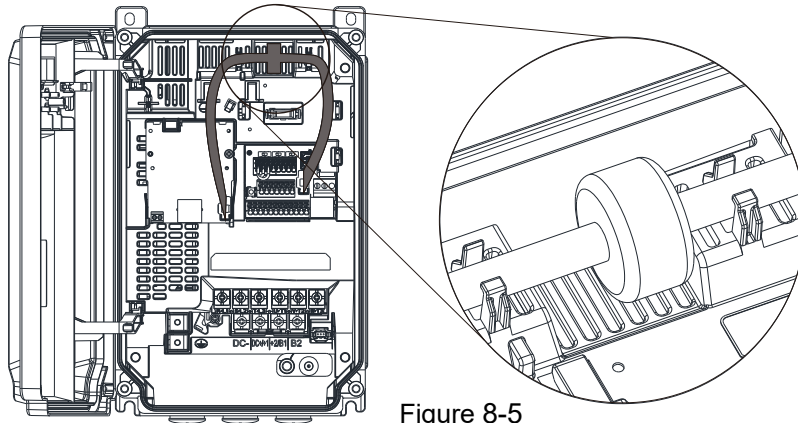

Figure 8-5
1. See Figure 8-5 for wiring positions.